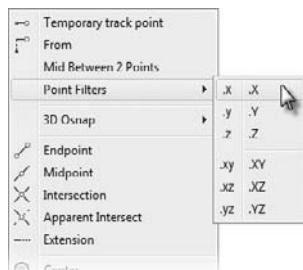

FIGURE 5.37 Select the .X point filter from the Object Snap context menu.
5. At the **Specify second point or:** prompt, hold the Shift key down and right-click to open the Osnaps context menu; then choose Point Filters > .X (Figure 5.37).